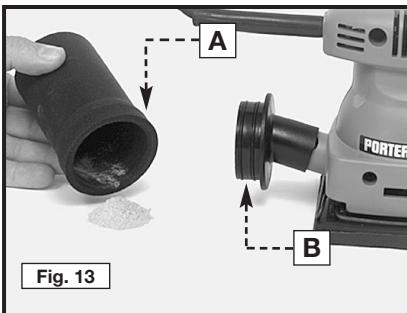

Fig. 13
2. Periodically remove the dust container (A) Fig. 13, from its mounting flange (B), and empty the collected dust.